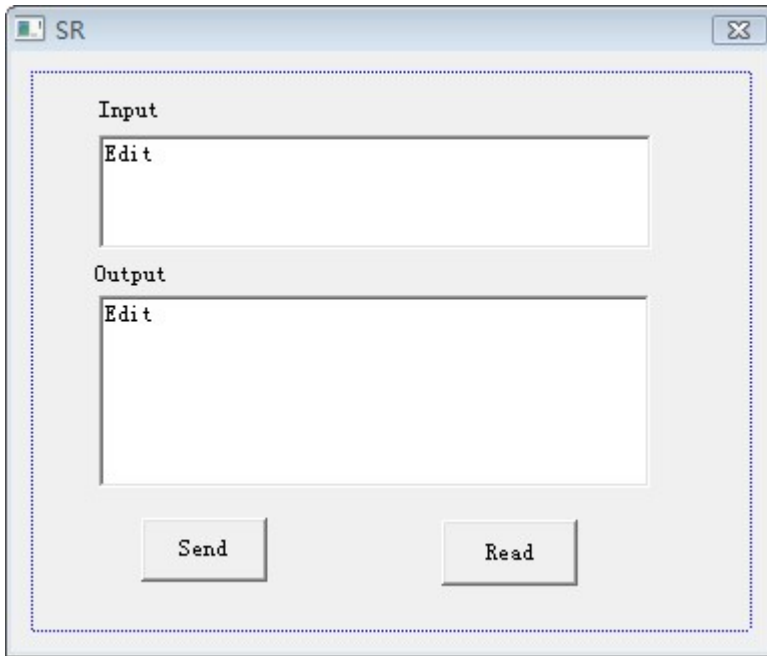

Figure 4-1-4
5. Add controls: Static Text, Edit and Button. See figure 4-1-4.